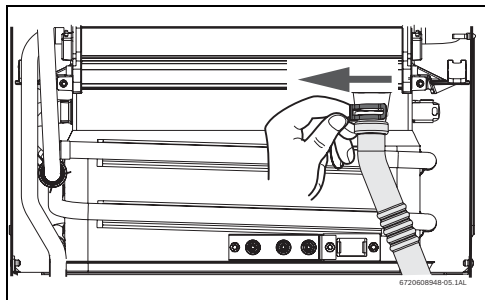

Fig. 61
- ▶ Remove the clip and disconnect the drain tube, see Fig. 61 .